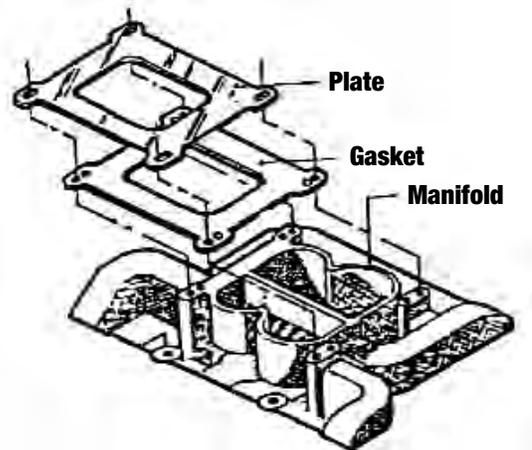

Figure 2 - Square-Bore Carburetor Adapter Plate
- **CARBURETOR PLATES AND GASKETS:** For square-bore carburetor installations, install the supplied carburetor plate and gasket to seal the carburetor base (**See Figure 2**).